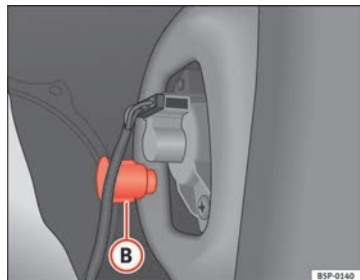

Fig. 197 Side lights and brake lights
- Unscrew the plastic fitting ⇒ Fig. 197 **B** securing the tail light. Inserting a screwdriver under the plastic fitting may help to loosen it.